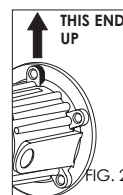

FIG. 2
**NOTE:** Position housing in wall so one of the screw bosses is oriented upward. This will provide optimum positioning of the lens cover when secured (see fig. 2).
NOTE: Position housing in wall so one of the screw bosses is oriented upward. This will provide optimum positioning of lens cover when secured. See fig. 2.